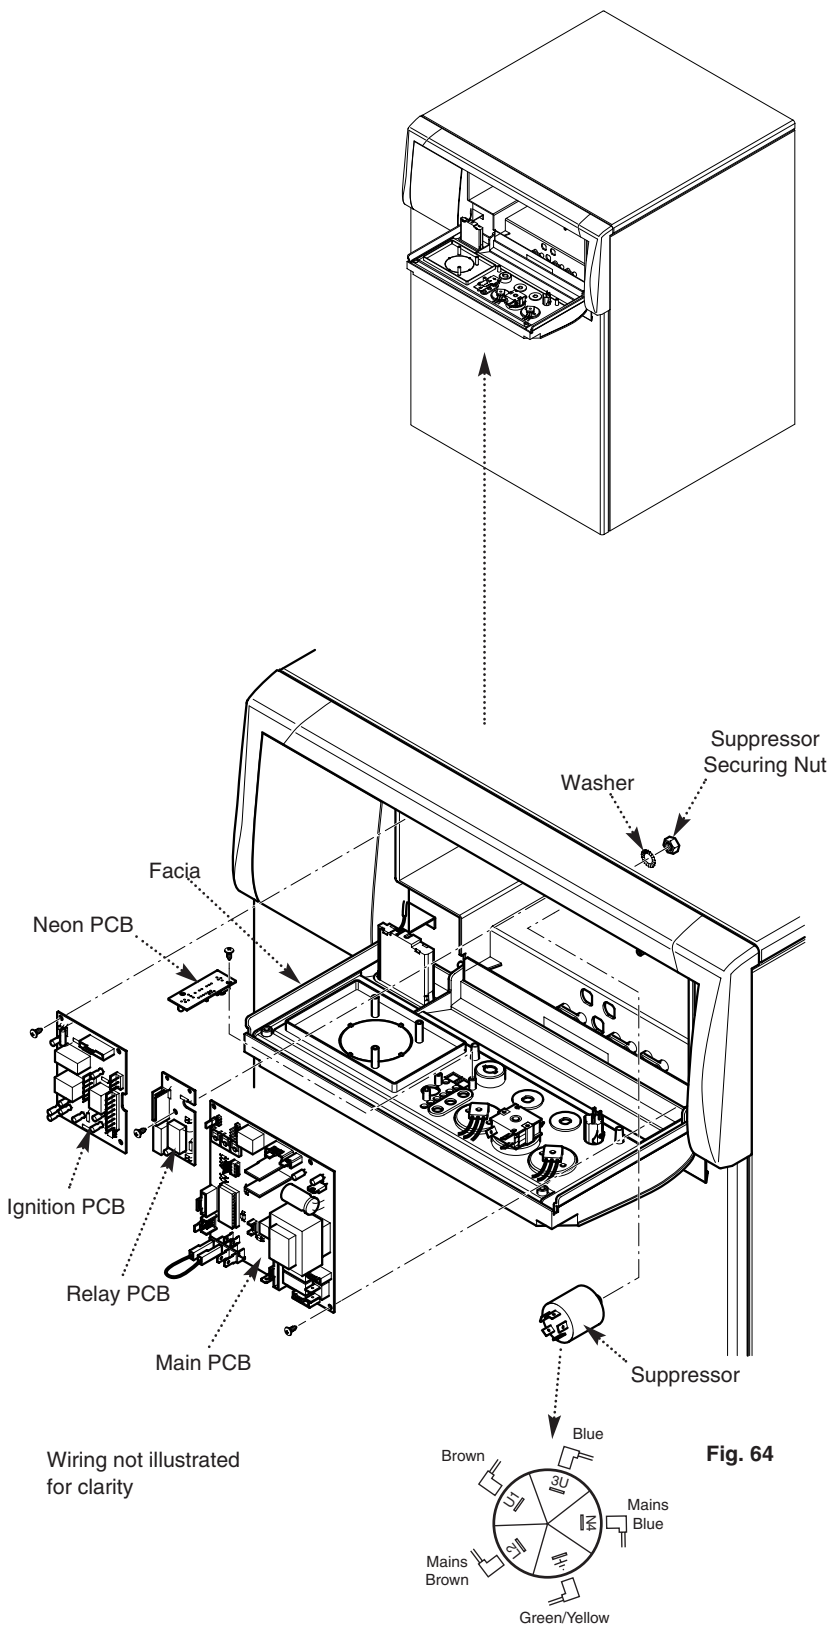

Fig. 64
11.12 Circuit Boards & Electrical Components (Fig. 64)